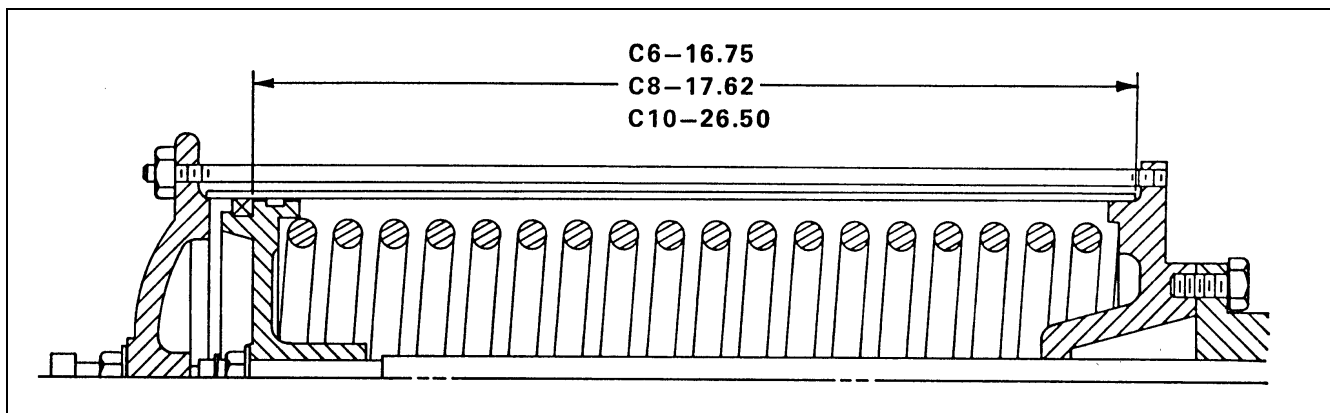

Figure 4 – Piston Length Dimension
6. Set the spring (C15) in place and install the piston (C10). Screw the piston on until the dimension shown in Figure 4 is reached.